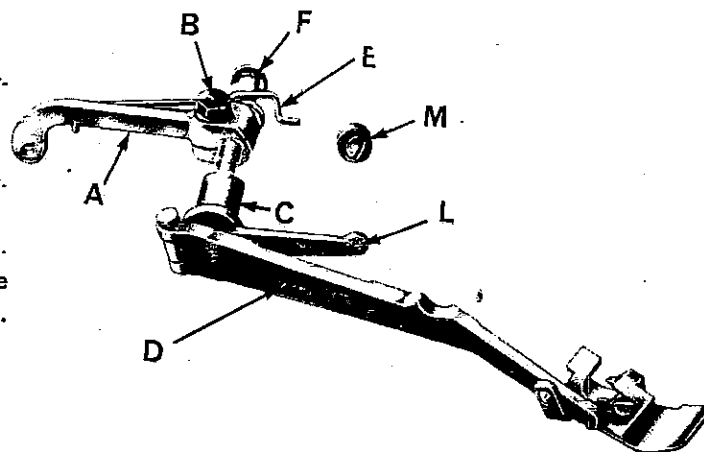

fig.16
e) Positioning and adjustment of presserfoot arm (fig. 16)